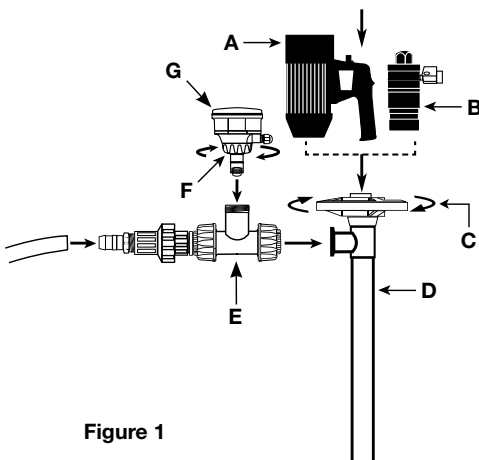

Figure 1
5. Insert batch controller into flow chamber assembly and turn nut clockwise to tighten (see Figure 1).